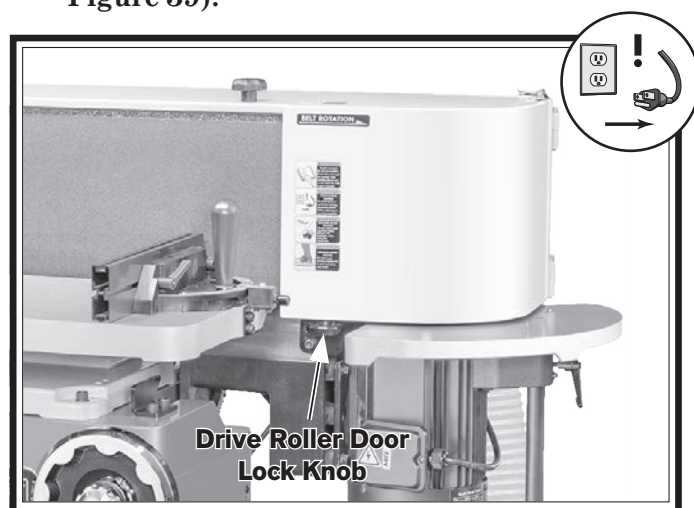

Figure 39. Location of drive roller door lock knob.
2. Loosen drive roller door lock knob (see Figure 39).